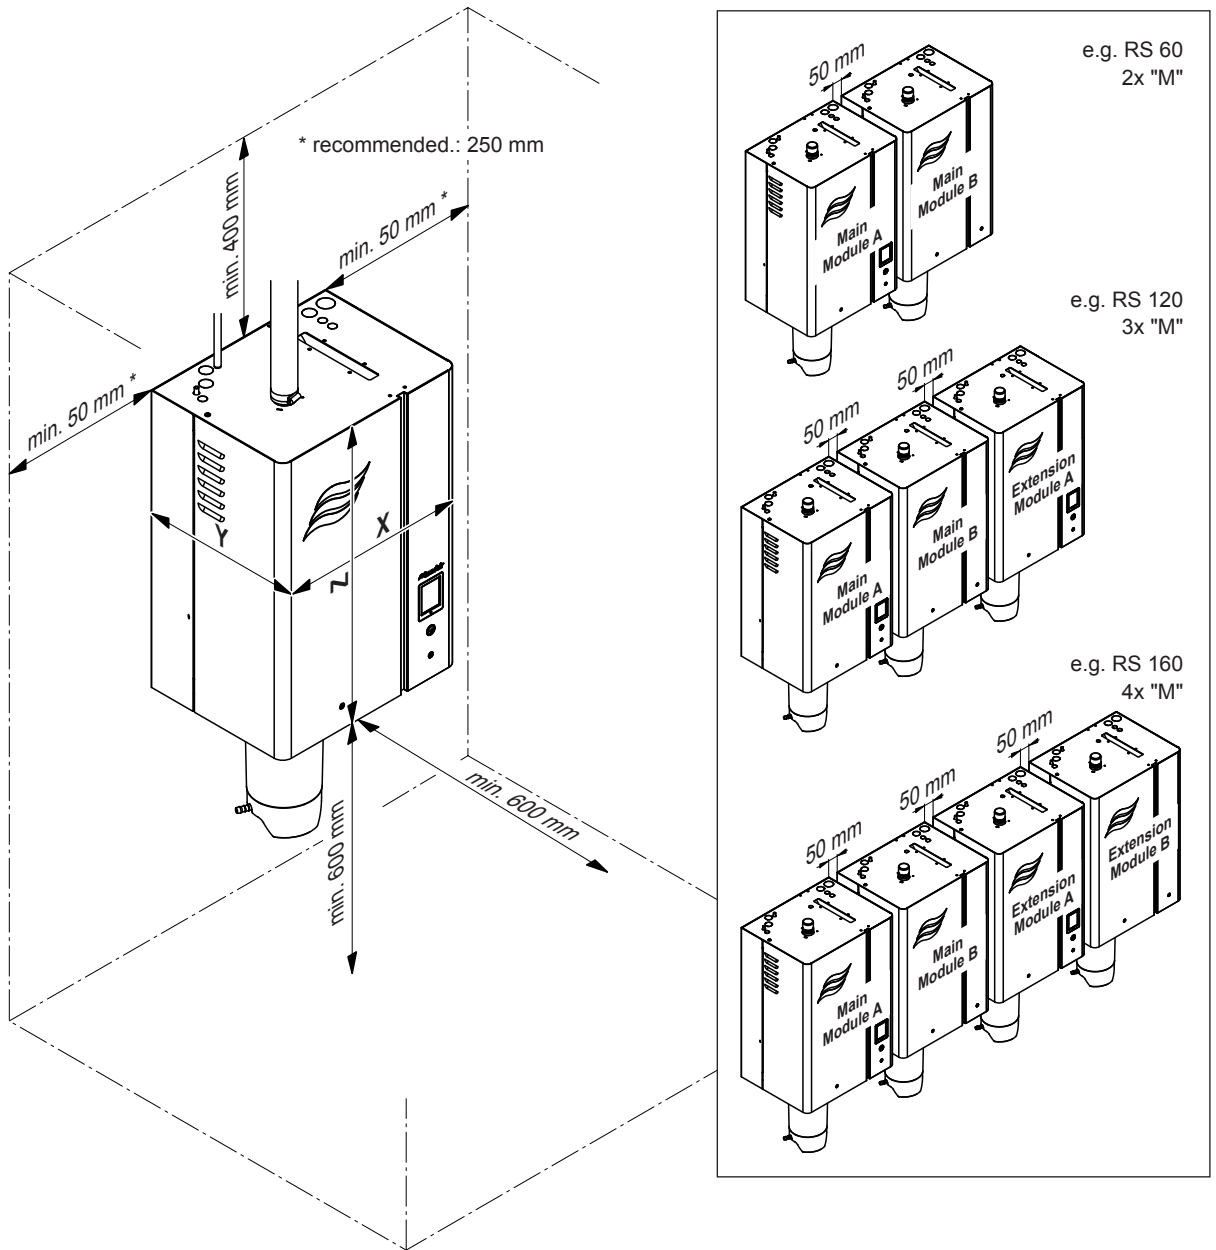

Abb. 9: Distances to be observed
- Install the Condair RS in such a manner that it is **freely accessible** with sufficient space available for maintenance purposes. The **minimum distances** shown in Abb. 9 **must be maintained**.
- In order to use the cables supplied with double units and Linkup systems, the unit must be mounted on the same height, with a maximum distance between the units of 50 mm and in the order shown in Abb. 9.